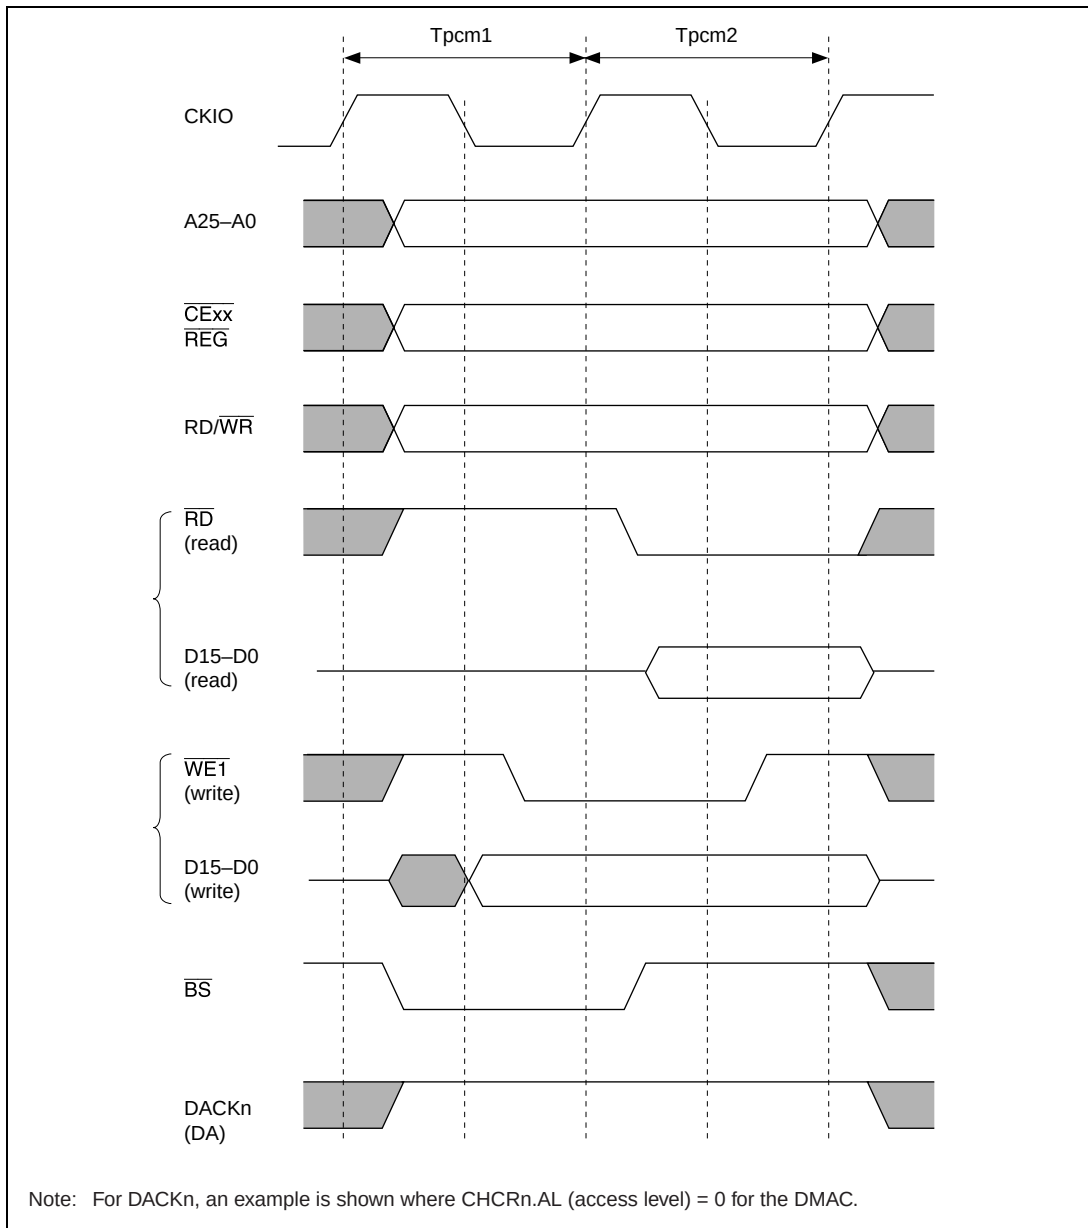
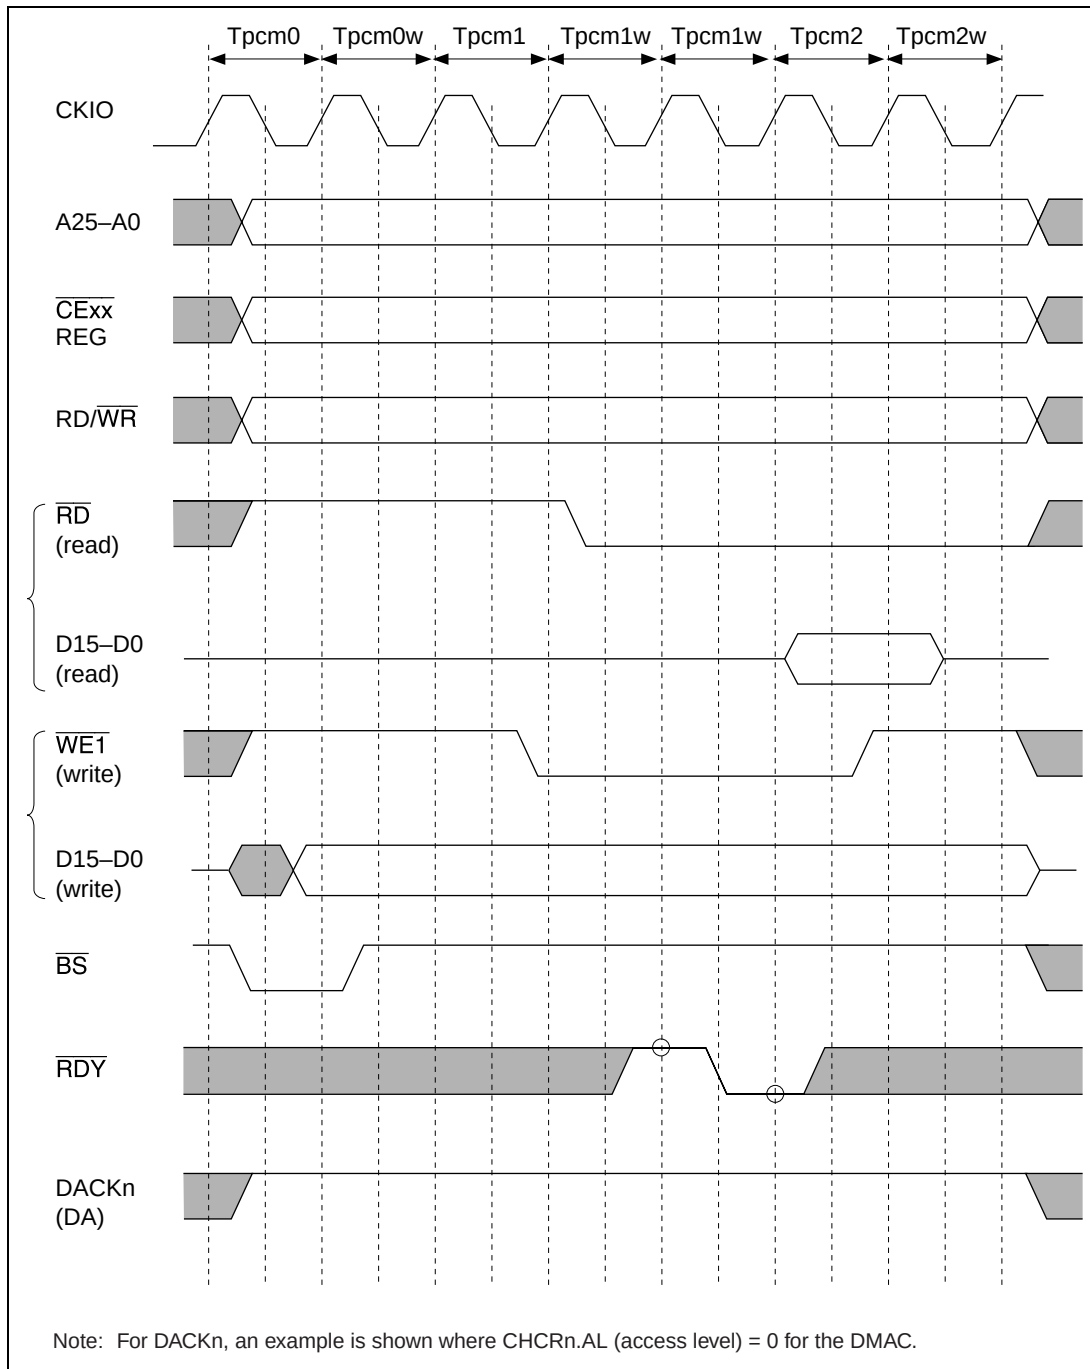

**Figure 13.45 Basic Timing for PCMCIA Memory Card Interface**
**Figure 13.46 Wait Timing for PCMCIA Memory Card Interface**
**Memory Card Interface Basic Timing:** Figure 13.45 shows the basic timing for the PCMCIA memory card interface, and figure 13.46 shows the wait timing for the PCMCIA memory card interface.